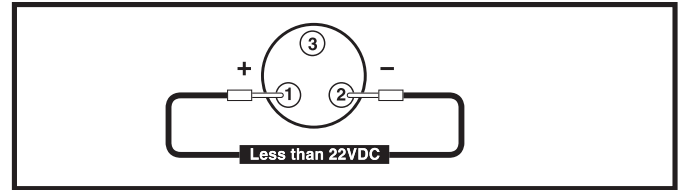

Figure 23. Connector 1a
1. Measure voltage across pin 1 (B+) and pin 2 (B-) of the off-board charger socket (1a). See diagram 2 and figure 23.
- *If your multimeter indicates more than 22VDC, then replace the power module (4) and retest the system.*